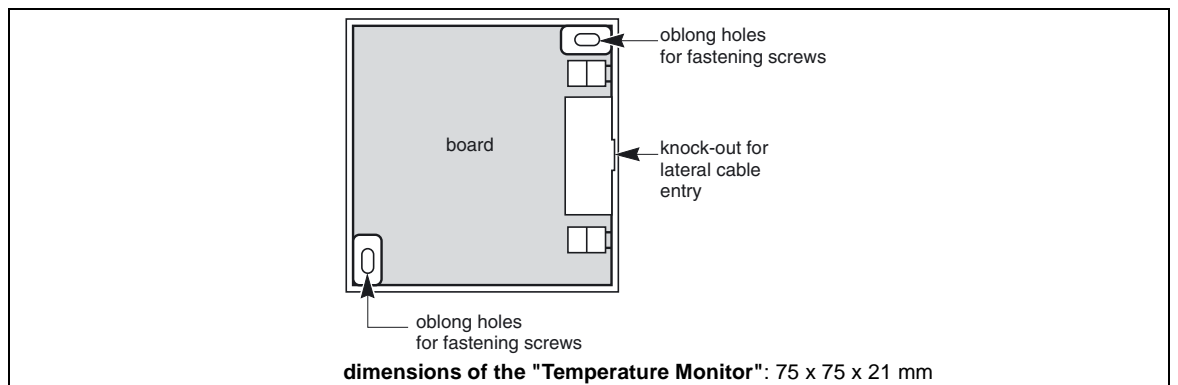

Fig. 25
- use the holes provided in the base plate to screw the unit to the vertical support (see figure 25);